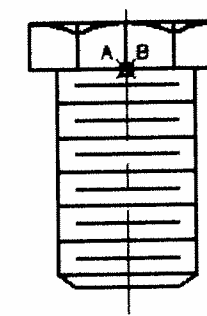

Figure 6-14c
Complicated shape objects can be created by inserting different blocks at the desired locations. Figure 6-14c shows a bolt created by combining a thread and a head block. Simply, insert a thread block follow by inserting a head block.
- Insert the head block on top of the thread block, Figure 6-14c.